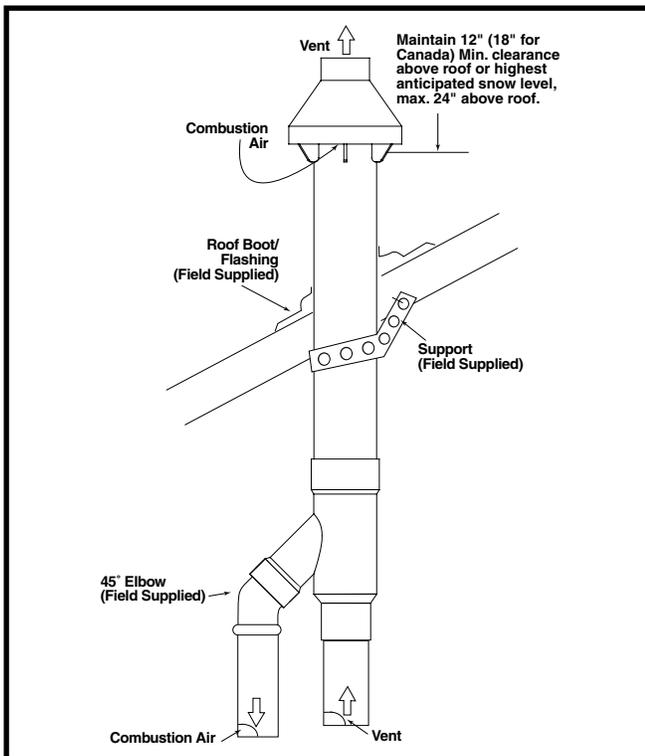

Figure 3. Roof Installation
- Install cemented Y concentric fitting and pipe assembly through structure's hole and field supplied roof boot/ flashing. See Figure 3 (page 3).
- Secure assembly to roof structure as shown in Figure 3 using field supplied metal strapping or equivalent support material.
IMPORTANT: Make sure the termination height is above the roof surface or anticipated snow level (12 inches in U.S.A. or 18 inches in Canada). If the assembly is too short to meet the height requirement, the 2 pipes supplied in the kit may be replaced by using the same diameter, field supplied SDR-26 PVC (D2241) pipe. Do not expand dimension "D" more than 60 inches. See Figure 3.